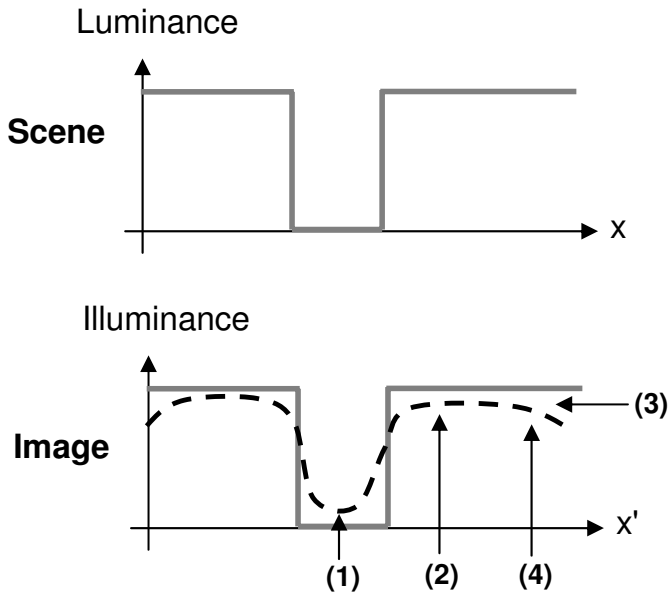

Figure 3.1 – Image given by a non perfect objective of a black object on a bright background.
Figure 3.1 shows a perfectly black object (zero luminance) on a bright background (uniform luminance). In the image plane of the objective, with a given magnification, the same spatial variation of illuminance should be observed. The dashed line shows, with some exaggeration, what is obtained in reality: some stray light in the dark zone (1), a bright zone attenuated by the transmission of the objective (2) as well as its numerical aperture (3) and vignetting, which significantly reduces the flux on the edge of the field (4).